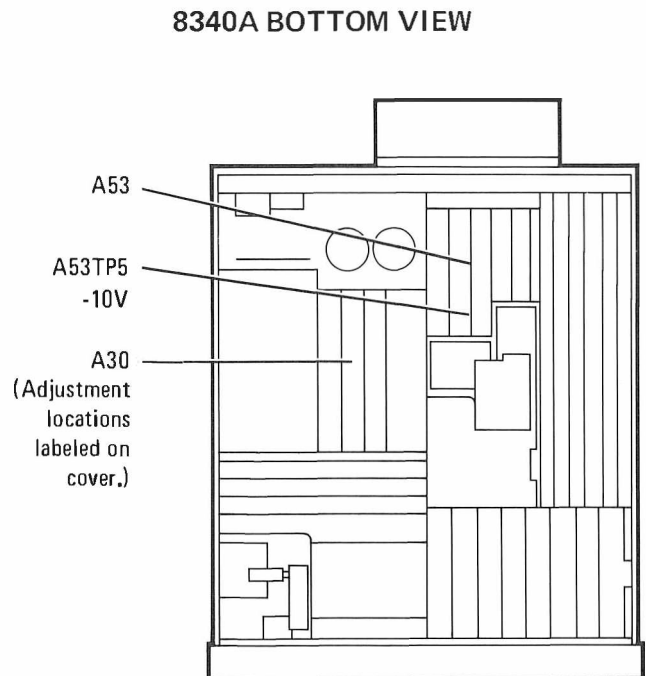

Figure 5-7. Location of A30 100 MHz VCXO Adjustments
5. Jumper -10 Vdc from A53TP5 (-10V) to A30TP1 TUNE test point. Refer to Figure 5-7 for location of A30 and adjustments.